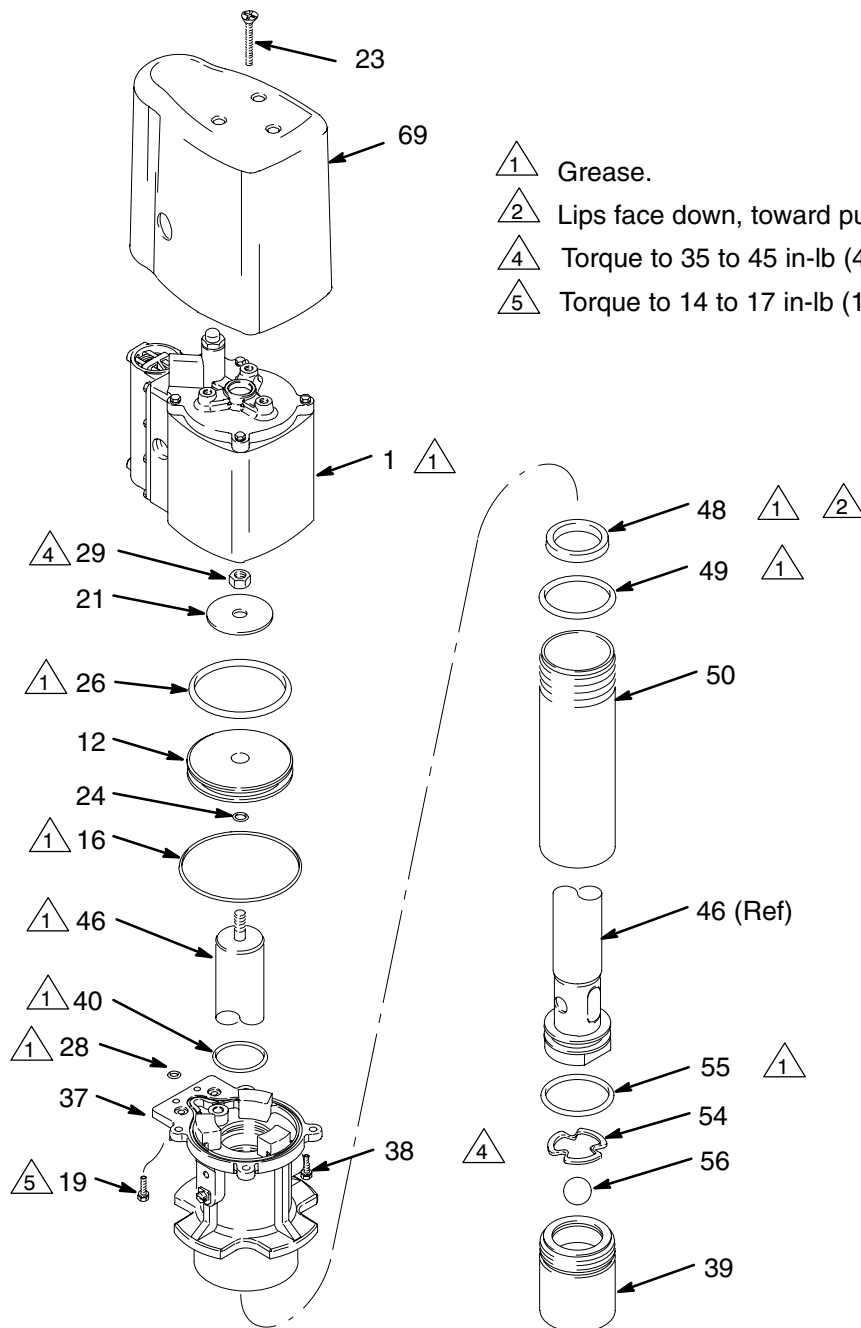
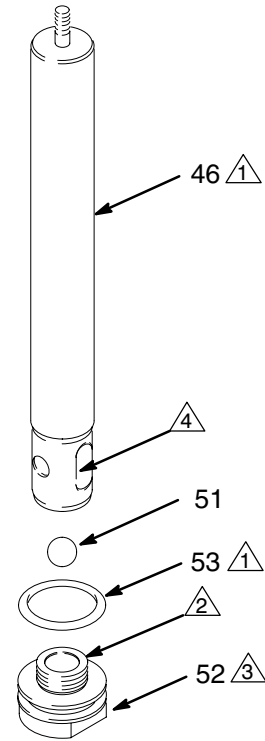

Fig. 5
Fig. 6
2. Remove the three screws (23) holding the cover (69) to the air motor cylinder (1) and remove the cover.
3. Remove the four screws (38) and two screws (19) holding the air motor base (37) to the air motor cylinder (1). Pull the cylinder off the base, remove the large o-ring (16) and two small o-rings (28), and set these parts aside. See Fig. 5.
4. Unscrew the intake valve housing (39) from the pump cylinder (50). Disassemble the intake valve.
5. Use a strap wrench on the pump cylinder (50) to loosen it from the motor base (37). Continue to unscrew the cylinder from the motor base by hand until the cylinder comes free. Pull the cylinder off the pump. See Fig. 5.
6. Hold the flats of the fluid piston (52) in a vise. Unscrew the nut (29) from the top of the displacement rod (46). Remove the washer (21), o-ring (3g), piston o-ring (26), and air motor piston (12) and set them aside. Pull the motor base (37) up off the displacement rod.
**NOTE:** To service the actuator valves, see page 18. To service the director valve (3), see page 20.
7. Using a wrench on the flats of the displacement rod (46), unscrew the rod from the piston (52). Remove the ball (51) and o-ring (53). See Fig. 6.
8. Remove the o-ring (49) and block packing (48) from the inside bottom of the motor base (37).
9. Remove the o-ring (40) from inside the base.
-  Flats of rod (46).
1. Grease the o-ring (40) and install it inside the top of the base. See Fig. 5.
2. Grease the block packing (48) and install it in the motor base (37). The lips of the packing must be facing down, toward the pump. Grease the o-ring (49), and install it in the bottom of the motor base (37).
3. Grease the displacement rod (46) and slide it down into the air motor base (37) so the narrow end protrudes from the top of the base.
4. Grease the o-ring (53) and install it on the fluid piston. Apply thread sealant (113500) to the piston threads. Place the piston upright in a vise with the jaws on the flats. Set the ball (51) on the piston seat. Screw the displacement rod (46) with the motor base (37) onto the piston. Using a wrench on the flats of the rod, torque to 40 to 60 ft-lb (54 to 81 N.m). See Fig. 6.
5. Install one o-ring (3g), the air motor piston (12), and the flat washer (21) on the displacement rod (46). Make sure the chamfer side of the piston (12) is facing down toward the o-ring (3g). Screw the nut (29) onto the displacement rod (46). Torque to 35 to 45 in-lb (4.0 to 5.1 N.m). Grease the large o-ring (26) and install it in the outer groove of the piston (12). See Fig. 5.
6. One end of the cylinder (50) has threads on the outside. Slide this end over the fluid piston and into the motor base (37) so the threads engage with the base. Screw the cylinder into the base by hand, then place the base in a vise with soft jaws.
7. Grease the o-ring (55) and install it on the intake valve housing (39). Install the ball (56) and ball retainer (54), and screw the valve housing securely into the cylinder (50). Use a pipe wrench on the knurled portion of the intake valve housing to tighten the valve and cylinder.
8. Remove the pump from the vise. Grease the large o-ring (16) and two small o-rings (28), and install them on the motor base (37). Grease the inside of the air motor cylinder (1), and position it on the base. Install the four screws (38) and torque to 35 to 45 in-lb (4.0 to 5.1 N.m). Install the two screws (19) and torque to 14 to 17 in-lb (1.6 to 1.9 N.m).
9. Replace the cover (69) on the air motor and fasten it to the air motor cylinder (1) using the three screws (23).